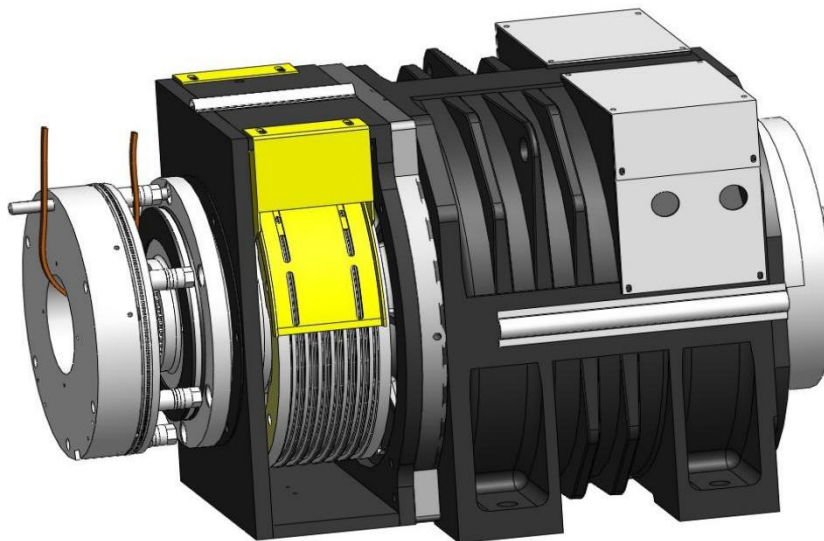

Figure 35: Removing the Emergency Brake
5. Loosen other 5 bolts M16x165 evenly; move out the emergency brake; then hoist out the brake with hoisting ropes (See Figures 35& 36 and Table 3). Remove the brake coil body, friction lining part A, anchor disc and friction lining part B.